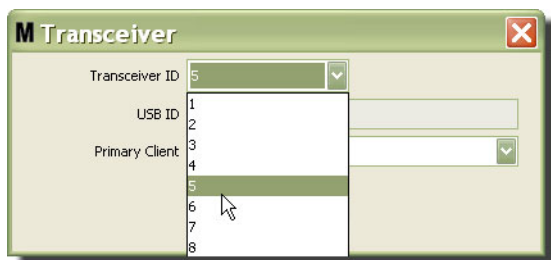

FIG. 64
4. To modify the Transceiver ID, click the arrow to display the drop-down menu. From the drop-down menu select a Transceiver ID number (FIG. 64). Click OK to close the screen and save the changes.